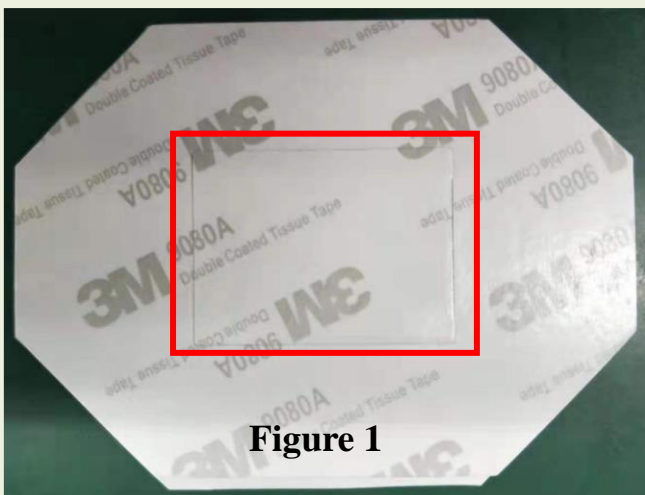

Figure 1
1. R720E is pasted with 3M double-sided tape (Figure 1 below).
First, remove the middle part of the double-sided tape (the red frame in Figure 1).